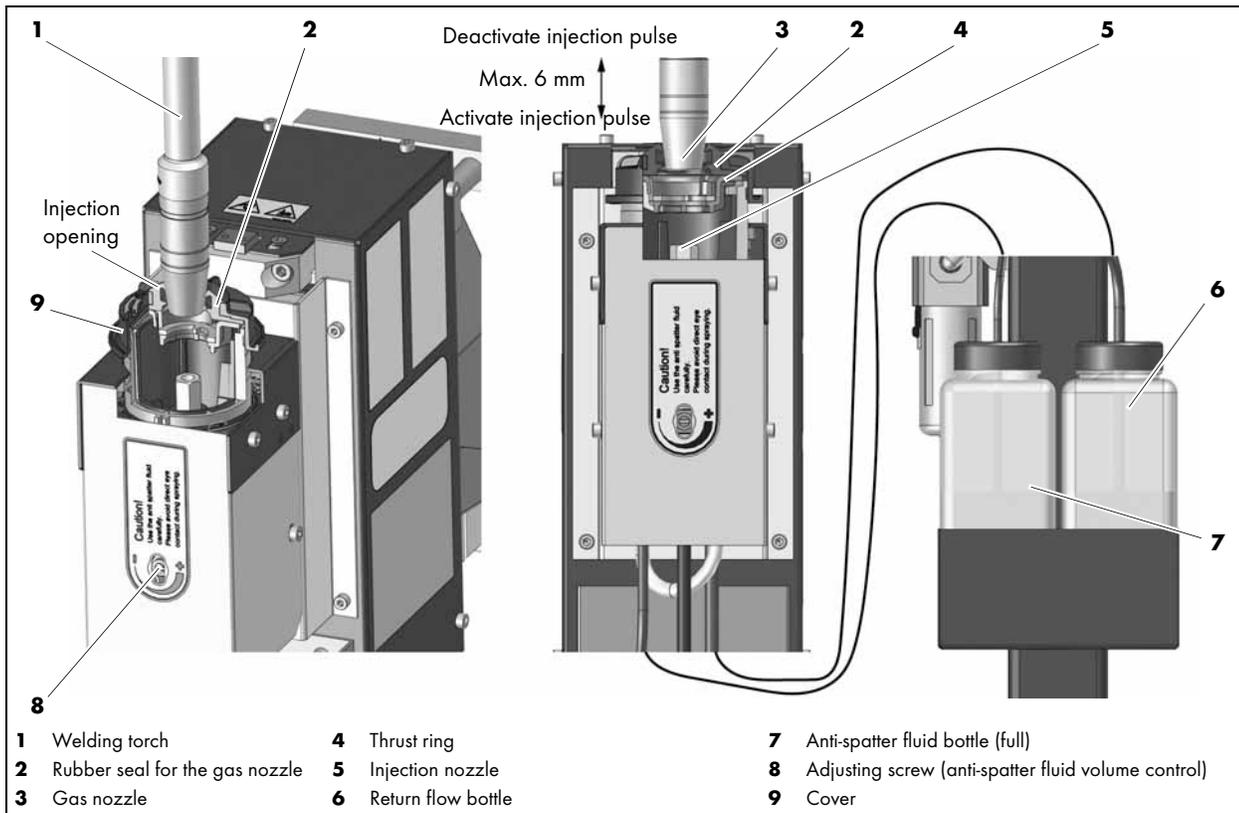

Fig. 12 Adjusting the anti-spatter fluid
- Fig. 12 Adjusting the anti-spatter fluid on page EN-20